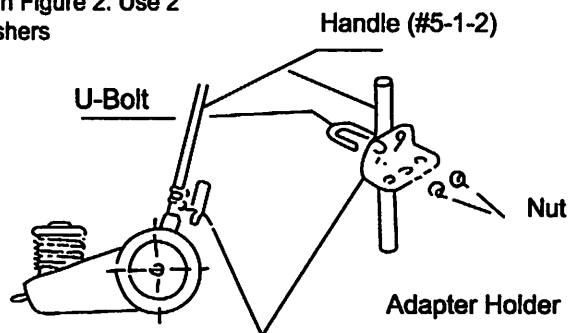

Figure 2
1. Adapter Holder needs to be assembled the Handle (#5-1-2) as shown in Figure 2. Use 2 Bolts, 2 Nuts and 2 Spring Washers to complete this assembly.